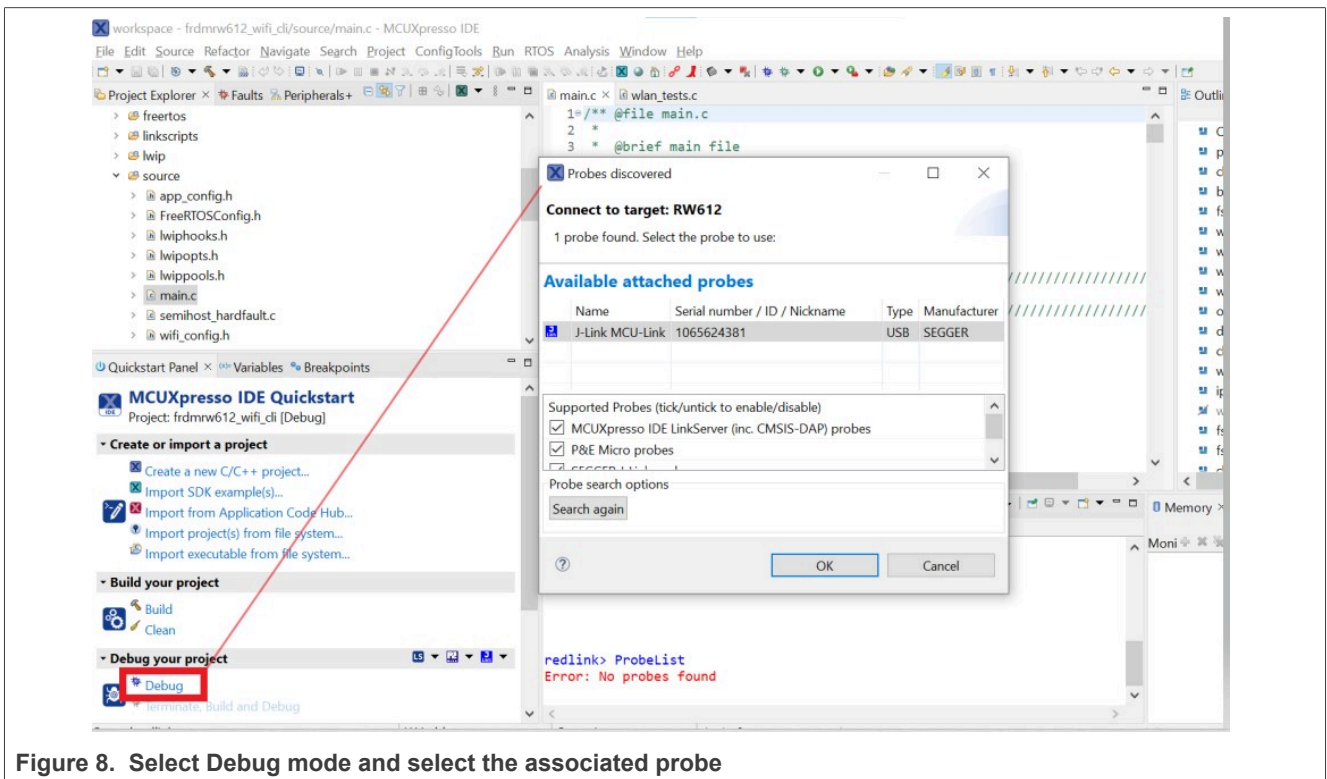

Figure 8. Select Debug mode and select the associated probe
- Select the associated emulator probe for the first time and click **OK** (Figure 8)